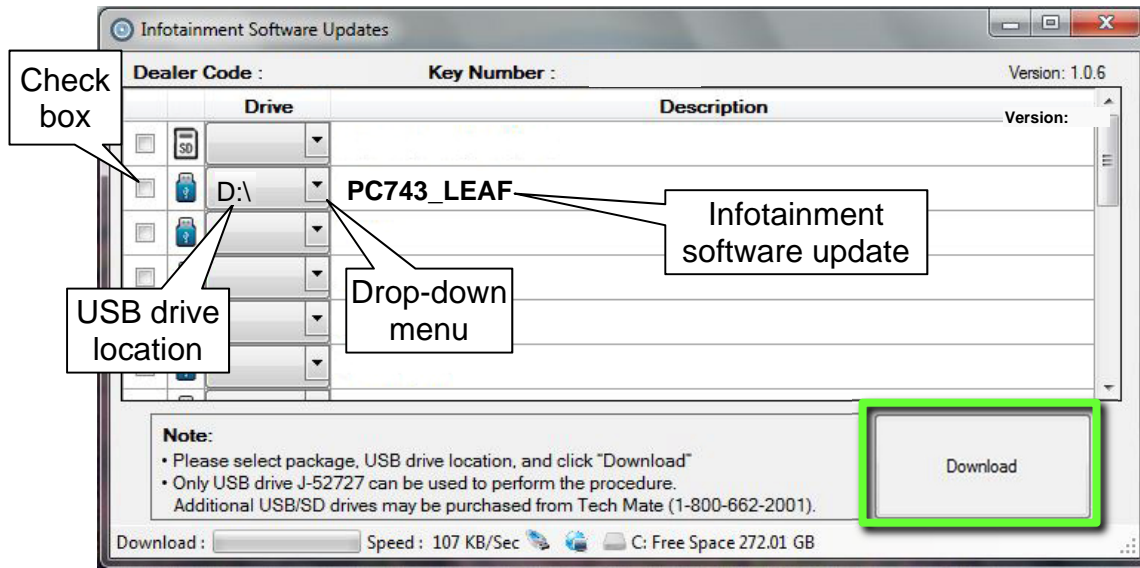

Figure 3
4. Select the check box next to the **PC743_LEAF** infotainment software update (refer to Figure 3 below).